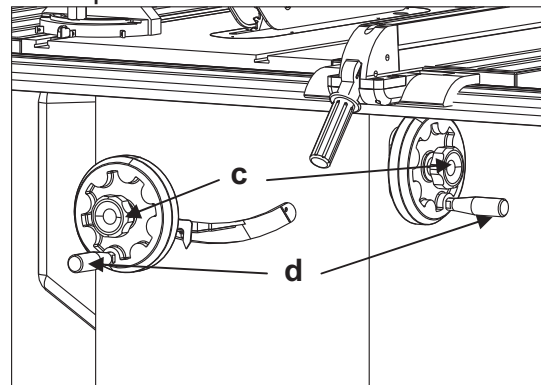

Fig. 4
1. Place the wheels in position over the raising and tilting screws being sure to engage the slots. Screw on lock knobs c(Fig.4), to hold wheels in place, then attach silver handles, d(Fig.4) tightening them with the supplied 12mm combination wrench.